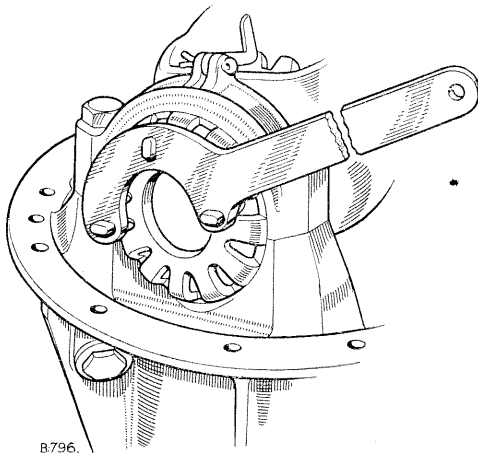

Fig. F-9—Adjusting crownwheel backlash
20. Tighten the locking nut on the crownwheel side of the differential casing as much as possible; slacken the locking nut, then tighten once more until it just rests against the bearing. Proceed in a similar manner for the other locking nut; this ensures that all end-float has been taken up and that the bearings are not pre-loaded at this stage. The special spanner, Part No. 262759 (Fig. F-9) will facilitate this operation.